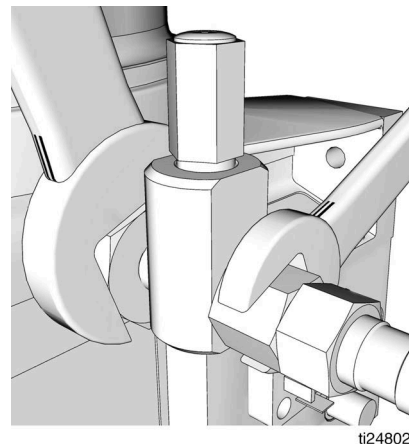

FIG. 36
4. Use two wrenches to tighten banjo fitting. Place one wrench on the pump element (e) and the second wrench over the end of the banjo bolt (d). ONLY tighten the banjo bolt (d) while holding the pump element (e) securely in place. Torque banjo bolt (d) to 35 ft. lbs (45.7 N•m) (FIG. 36). Take care to not over-tighten.